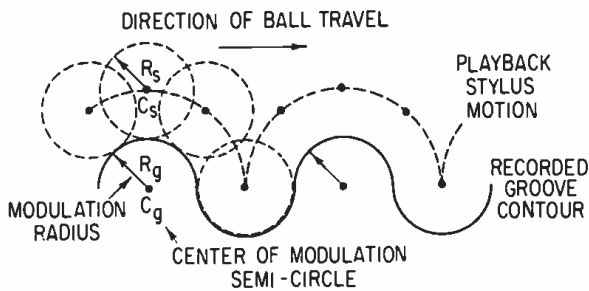
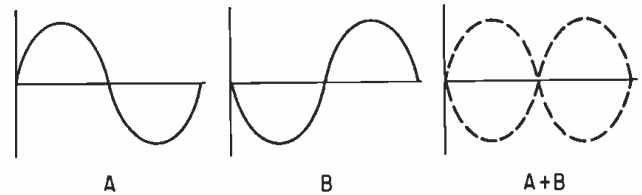

Figure 3. Semi-circle modulation where $R_s = R_g$.
Figure 2. If the two channels are 180° out of phase, their addition will result in cancellation.
An exact analysis of tracing distortion can become very complex, and since we are only interested here in the concept, we will make a simplifying assumption; let us assume that a sine wave is a series of semicircles alternating convex and concave. FIGURE 3 shows a modulated groove comprised of semicircles with R_g representing the radius of the modulation, and the playback stylus is shown with R_s representing its radius. We will make $R_g = R_s$, a condition that can occur frequently in actual playback conditions. The playback stylus rolls along the groove in the direction of the arrow, and the dotted line represents the successive positions of the center of the playback stylus ball. These positions in turn are represented by the dotted circles. When the ball travels on the convex portion of the curve, the ball center describes an arc that is a longer distance than the corresponding groove contour. When the ball travels on the concave portion of the curve, the ball center describes an arc that is a shorter distance than the corresponding groove contour. In fact when the playback ball is centered in the convex segment the centers of the modulation and playback balls coincide and the playback ball motion goes to zero for an instant. The resulting pickup output is a distorted version of the groove contour. The tracing distortion thus generated will consist mainly of second and third harmonics. FIGURE 4 displays the fundamental, second, and third harmonics (in proportional magnitudes) derived from the playback of an actual sine wave. By combining all three wave forms, a composite wave form is derived that reflects the tracing distortion process described above.
cancellation effect and the signals subtract as shown in FIGURE 2.
It can be seen in FIGURE 3 that a slight azimuth misalignment can result in a phase shift of the center information. It should be noted that this can be caused by either the record head or the playback head in a recording system. It should also be noted that the shift is not 180° as described in FIGURE 2. Therefore a reversal of the phase of one channel with respect to the other will not eliminate this problem. The shift can be slight enough so that when the product is auditioned in stereo it is not noticeable. However, when the product is summed to derive the mono, this shift becomes a much more critical matter. When added the signals will add during some portions of the wave and subtract during others.
Figure 3. Tape head alignment all along the way plays a profound effect on the final result. In (A) the results of proper attention is shown in two channels that are in perfect phase relationship. At (B) is an exaggerated view of what happens when mis-alignment allows the phase relationship of one channel to lag the other.